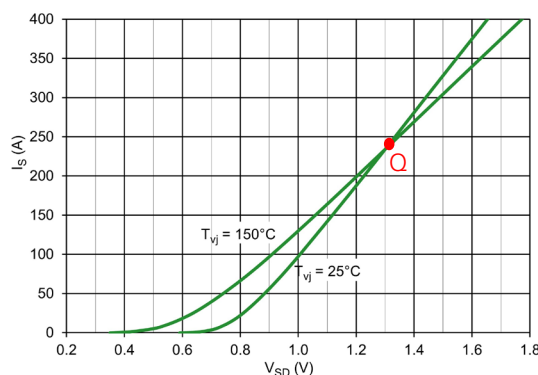

Figure 28. Typical Forward Characteristics of a Reverse Diode
Typical Forward Characteristics of a Reverse Diode plotted against various temperatures are presented in **Figure 28**. This curve aids in comprehending the diode's conduction behavior and its forward voltage drop characteristics. It clearly demonstrates the negative temperature coefficient of diode forward voltage V_{SD} in the low-current region. As a result, it is anticipated that the diode forward voltage will decrease as the temperature increases. In the high-current region that is above the cross-over point (Q), the diode forward voltage will increase as the temperature increases.